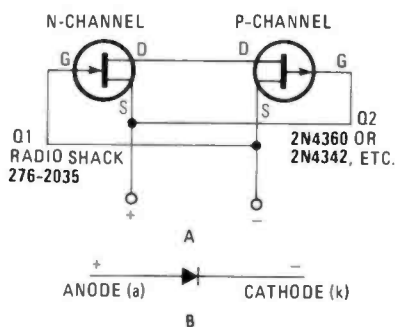

Fig. 1—Home Brew Diode.
The schematic diagram in Fig. 1 shows how our two terminal device is constructed from two JFET transistors: an N-channel and a P-channel unit. The JFET pair is interconnected so that only two leads extend out into the real world. Somewhat like a diode, one lead is referred to as the anode (positive terminal) and the other lead the cathode (negative terminal).
your own special diode is no problem. Take a pair of complementary JFET transistors and connect them together as shown in Fig. 1. We used Radio Shack's N-channel (276-2035) and P-channel (2N4342) JFET's to make the diode.
- D1—(See text and Fig. 1)